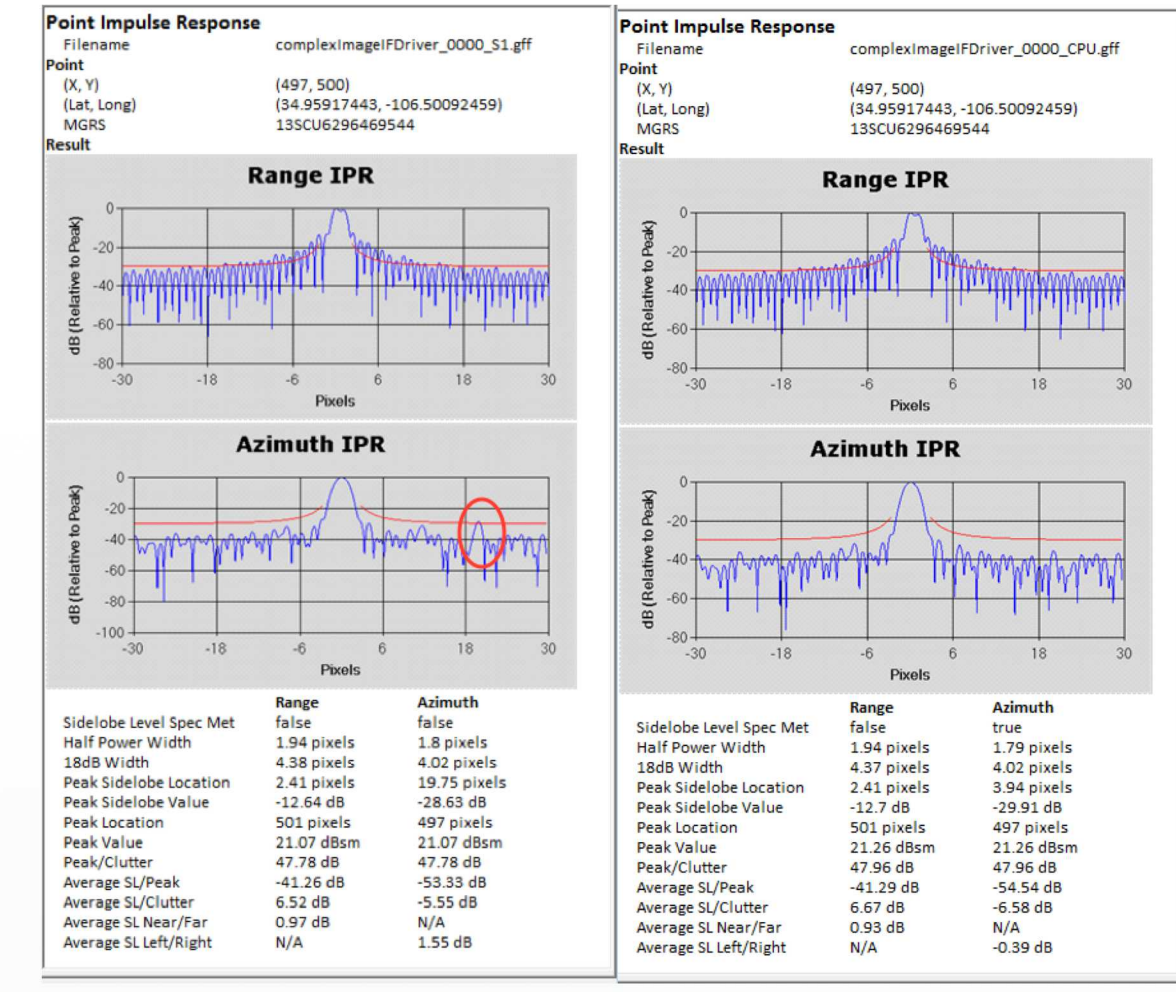

Figure 4: Impulse response of center corner reflector of S1 (left) and Intel (right) images
- Difference rarely exceeds 1 dBsm (Figure 4).